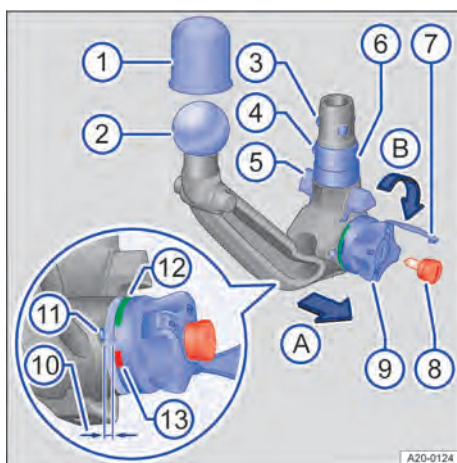

Fig. 141 Overview: Detachable ball coupling.
4. Check to ensure that the mounting, handwheel → Fig. 141 ⑨, shank ⑥ and the retaining balls ③ of the ball coupling are all clean and undamaged → ①. Clean if necessary.
1. Grasp the ball coupling underneath the ball coupling → Fig. 141 ② with one hand.
2. Remove the lock cap → Fig. 141 ⑦ from the lock and insert the key ⑧ into the lock.
3. Turn the key → Fig. 141 ⑧ anticlockwise.
4. Use your other hand to pull out the handwheel → Fig. 141 ⑨ in the direction of arrow A and hold it in this position → ▲.
5. Turn the handwheel → Fig. 141 ⑨ in the direction of the arrow B until it engages. The ball coupling is now pre-tensioned. The red marking ⑬ on the handwheel must point towards the white marking ⑪ on the ball coupling. The handwheel protrudes clearly from the ball coupling. The gap between them is approximately 4 mm ⑩.
6. Check to see whether all retaining balls → Fig. 141 ③ can be pressed fully into the ball coupling shank ⑥.
2. Push the ball coupling firmly upwards until it engages. Both centring devices → Fig. 141 ⑤ must engage in the mounting points on the vehicle.
3. The handwheel → Fig. 141 ⑨ has now returned to its original position. There is no longer a gap between the handwheel and the ball coupling.
4. Turn the key → Fig. 141 ⑧ in the handwheel clockwise and remove it.
5. The handwheel → Fig. 141 ⑨ may now no longer be pulled out.
6. Fit the lock cap → Fig. 141 ⑦ on the lock and place the key in the stowage box.
1. The green marking → Fig. 141 ⑫ on the handwheel must point towards the white marking on the ball coupling ⑪.
2. The handwheel → Fig. 141 ⑨ must rest on the ball coupling and there must be no gap between them.
3. Shake or pull down on the ball coupling → Fig. 141 with some force. It must sit firmly in the mounting → ⚠.
4. The lock must be locked and the key → Fig. 141 ⑧ removed.
5. The lock cover → Fig. 141 ⑦ must cover the lock in the handwheel.
- Never use the towing bracket if the smallest diameter of the ball → Fig. 141 ② is less than 49 mm (1.9 in).